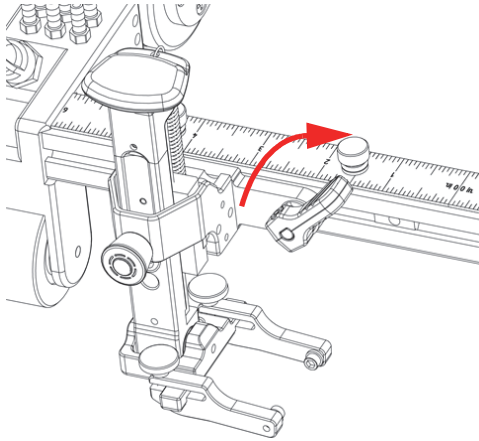

Figure 2-16 Position lever locked
3. Turn the position lever clockwise to lock the probe holder into place (Figure 2-16 on page 47).